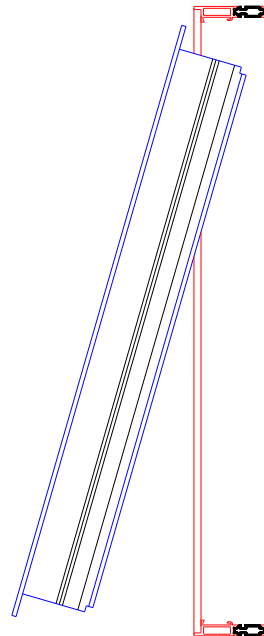

Figure C2:
3. After the fastener(s) are removed, the vent can be opened, the vent has two 4-bar hinges and opens similar to an awning (Figure C2). Follow the framing instructions in Section V Window Installation.